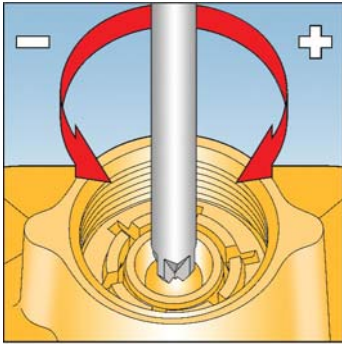

Fig. 8
8. If UPSS fitted, insert a pozidriv screw driver (No.2 point) into UPSS adjusting screw in bottom spring holder. See Fig. 8.
23. Slowly turn UPSS adjusting screw clockwise (+) until UPSS device trips off. See Fig. 8.